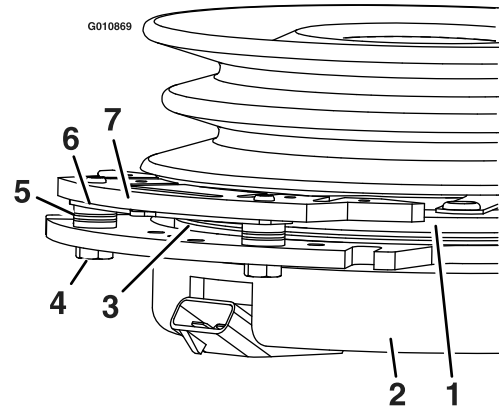

**Figure 74**
3. Remove the dust cap from caster and tighten the locknut (Figure 74).
4. Tighten the locknut until the spring washers are flat, and then back off a 1/4 turn to properly set the preload on the bearings (Figure 74).
**Important:** Make sure that the spring washers are installed correctly as shown in Figure 74.
5. Install the dust cap (Figure 74).